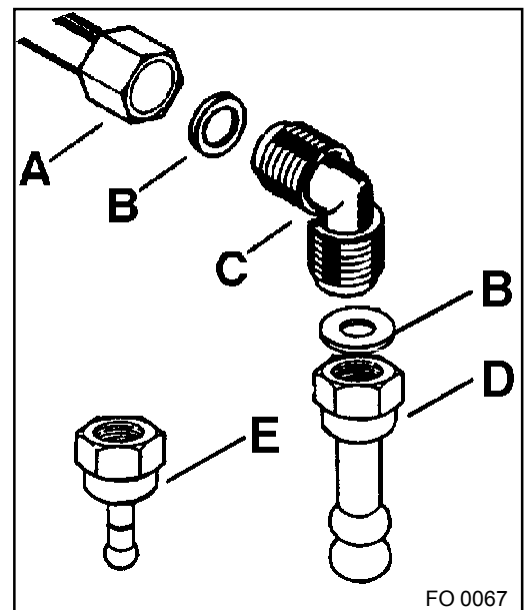

Fig. 4
The adjustable connection is fixed to the comprehensive ramp by means of a threaded nut GJ 1/2". Interpose the sealing between the components as shown in fig. 4. Screw the parts without forcing, adjust the connection in the required direction and tighten everything.
**Natural gas** : use the pipe fitting «D» (Fig. 4).
- nowhere it can reach overtemperature, other than room temperature, higher than 30°C; if the flexible pipe, to reach the cock, must run behind the range, it must be installed as shown in Fig. 4;